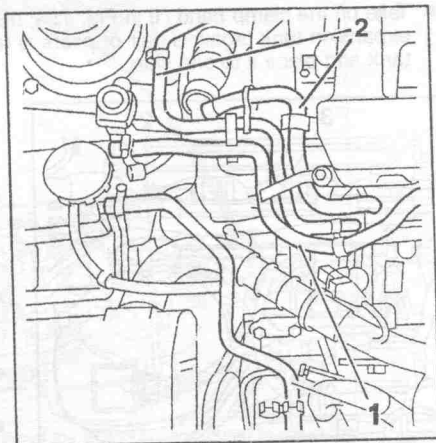

Fig. 1.86. The two hoses (1) and (2) must be clamped-off and disconnected.
- Refer to Fig. 1.86 and clamp off the coolant hoses (1) and (2), open the hose clips and then disconnect the hoses.